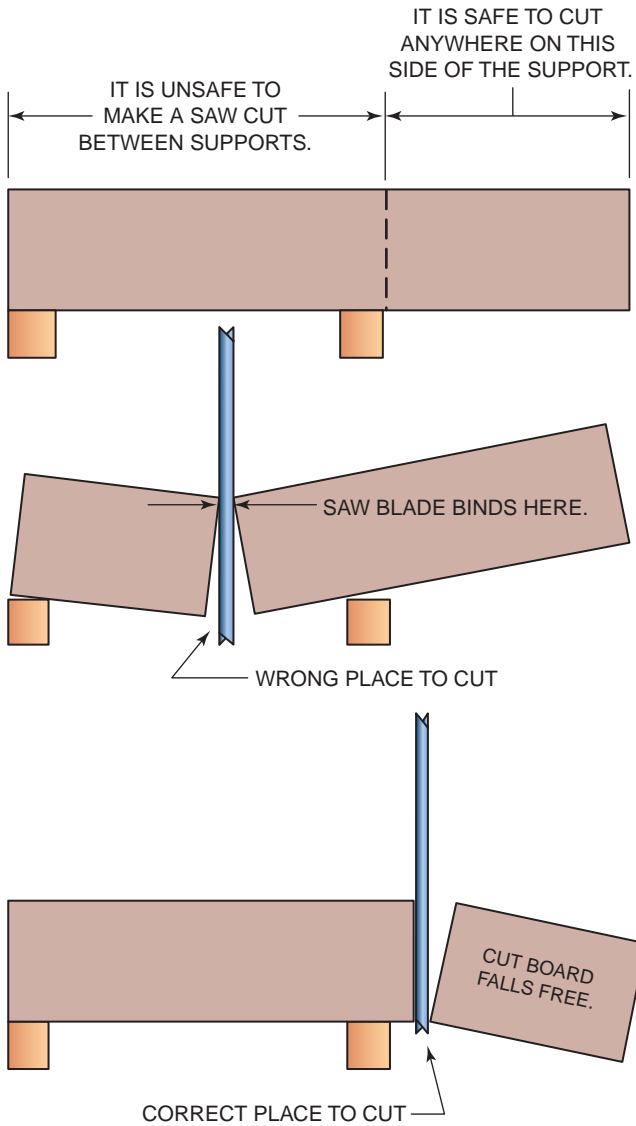

FIGURE 2-55 Properly locate supports before making a cut.
The rotating saw blade makes a narrow cut, called a kerf, as it passes through the wood. If the piece being cut is not properly supported, the kerf can be squeezed together, binding the saw blade. A light amount of binding may cause the wood to smoke and the saw motor to slow. With enough binding, the saw motor will stall. Binding can occur quickly, and when the blade suddenly binds and stops, the saw will kick back. Severe kickback can cause the spinning blade to jump out of the kerf. The blade can then grab the wood's surface, which will jerk the saw back. Fingers, hands, arms, legs, and feet that are in the path of the spinning saw can be severely cut or severed. To prevent binding and kickback, the wood being cut must be properly supported, **Figure 2-55**.
- Support the work solidly with the cut line beyond the end of the support so the cut will fall free and not bind the blade, **Figure 2-55**.